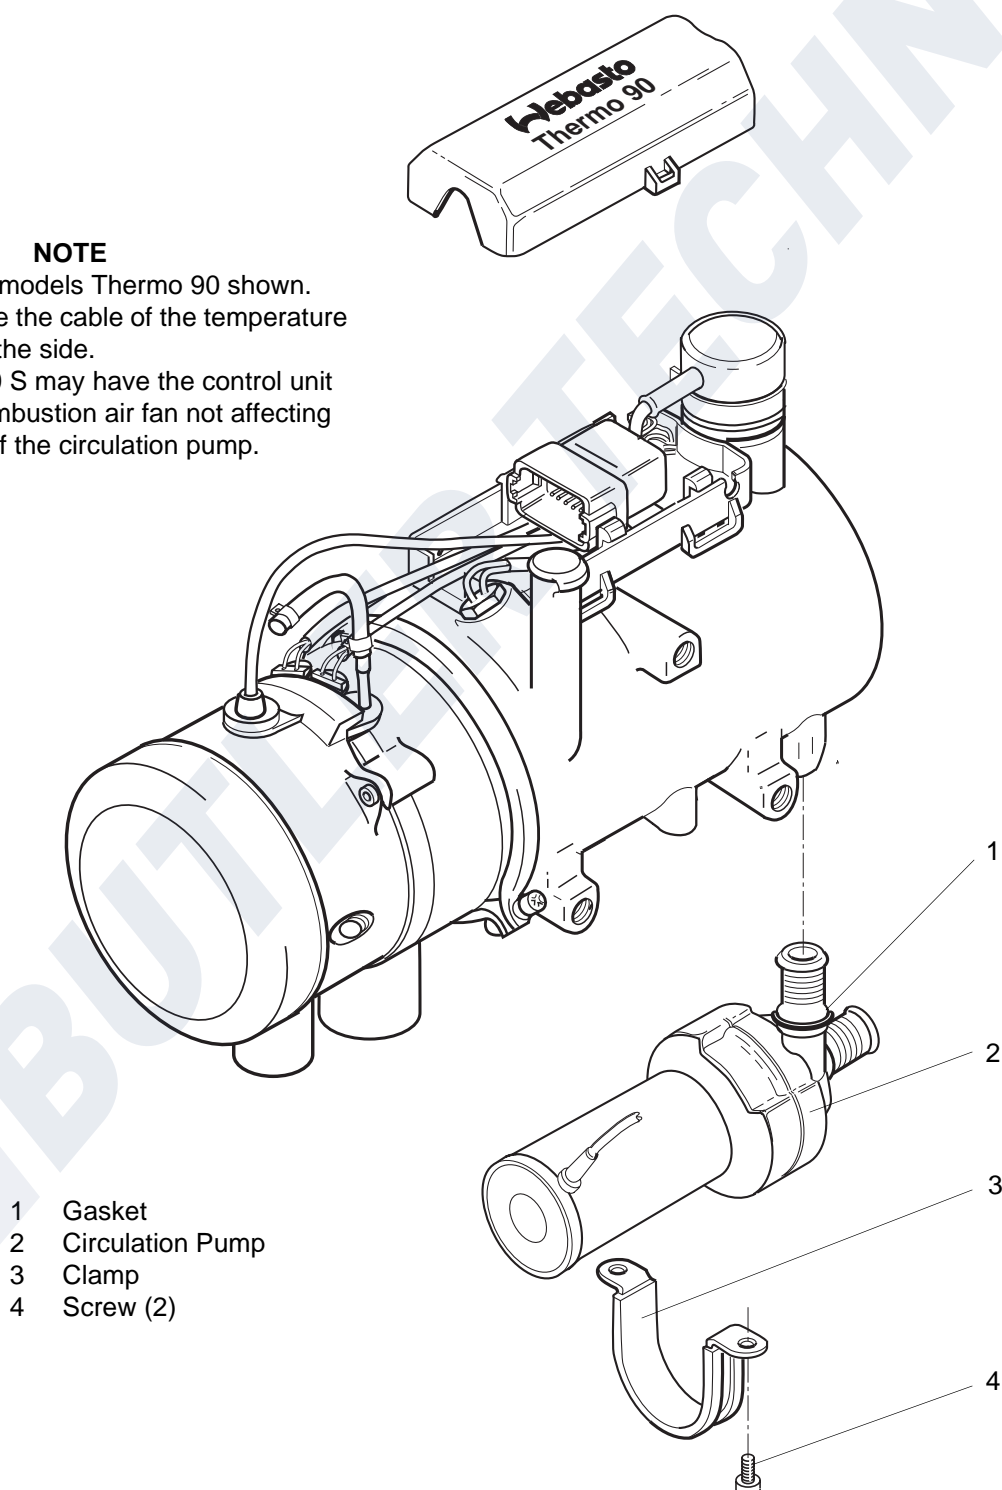

Fig. 902 Replacement of Circulation Pump
3. Remove screws (4, Fig. 902).
4. Remove clamp (3) and circulation pump (2).
1. Apply acid free grease (Vaseline) to gasket (1, Fig. 902)
2. Bring circulation pump (2) in assembly position and secure using clamp (3) and screws (4).
3. Torque screws (4) to 3 Nm \pm 10%.